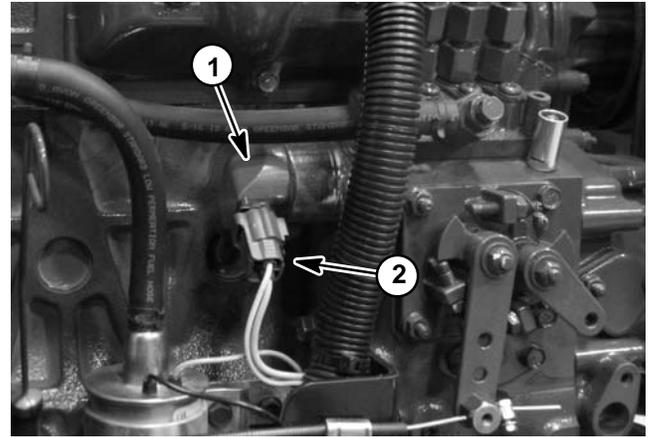

Figure 29
- A. Locate and unplug machine wire harness connector from the fuel stop solenoid (Fig. 29).